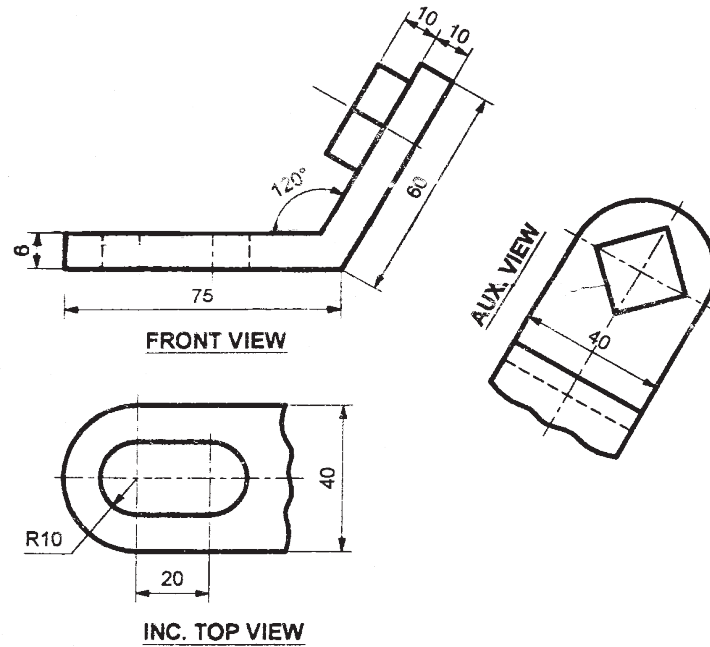

Fig. No. 2
- b) Figure No. 2 shows front view, incomplete top view and auxiliary view of an object. Redraw the given view and complete the top view.